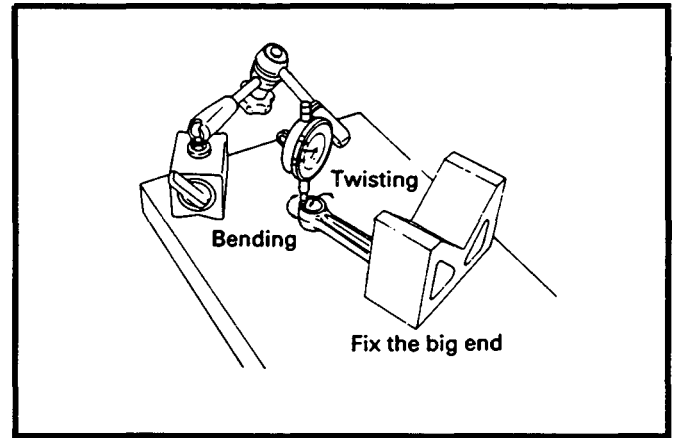

Figure 18.
17. Check the connecting rod for twisting and bending, while clamping the large end. See Figure 18.